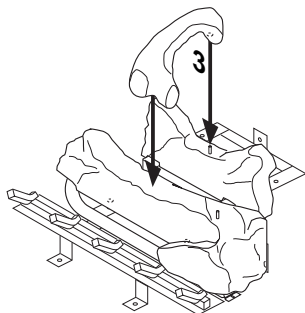

Figure 43 - Installing Log No. 3
3. Place log #3 (crossover log) onto the rear and front logs. Make sure it is seated properly on the smooth surface on the front log and on the pin on the back log as shown in Figure 43.